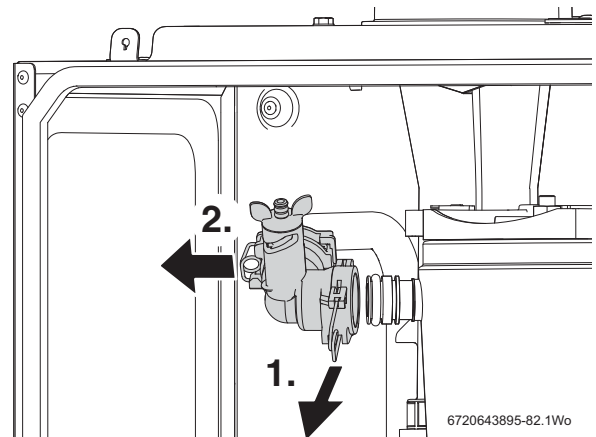

Fig. 105 Flow pipe removal
1. Refer to figure 105 and remove the clip from plastic elbow on the flow pipe.